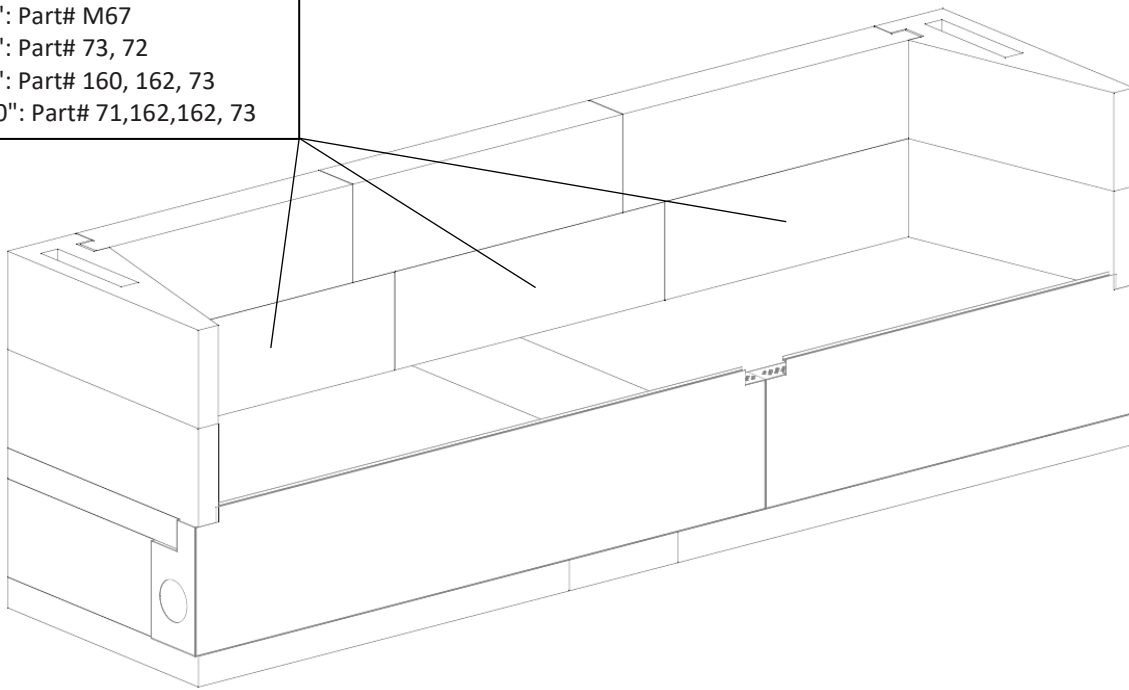

FIGURE 14
5) Continue assembly of the consecutive courses of the firebox side and backwalls, making sure to stagger the back wall components so that the vertical joints do not align. Apply Earthcore Adhesive to the top of each layer of side wall components before setting the next course in place **(Figure 14).** Look for some Earthcore Adhesive to squeeze out along the joints of all contact surfaces as a sign that the joint is thoroughly sealed with the approved Earthcore Adhesive.